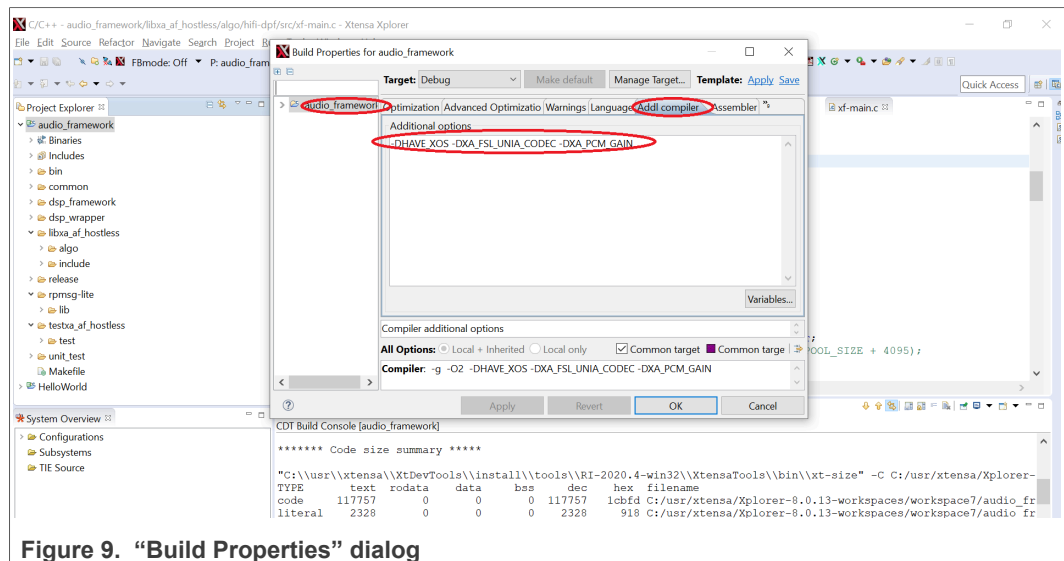

Figure 9. "Build Properties" dialog
1. Right-click the name of the DSP framework project in the “Project Explorer” panel and choose the “Build Properties...” option. You will see the “Build Properties for dsp_framework” dialog. The dialog is shown in Figure 9.